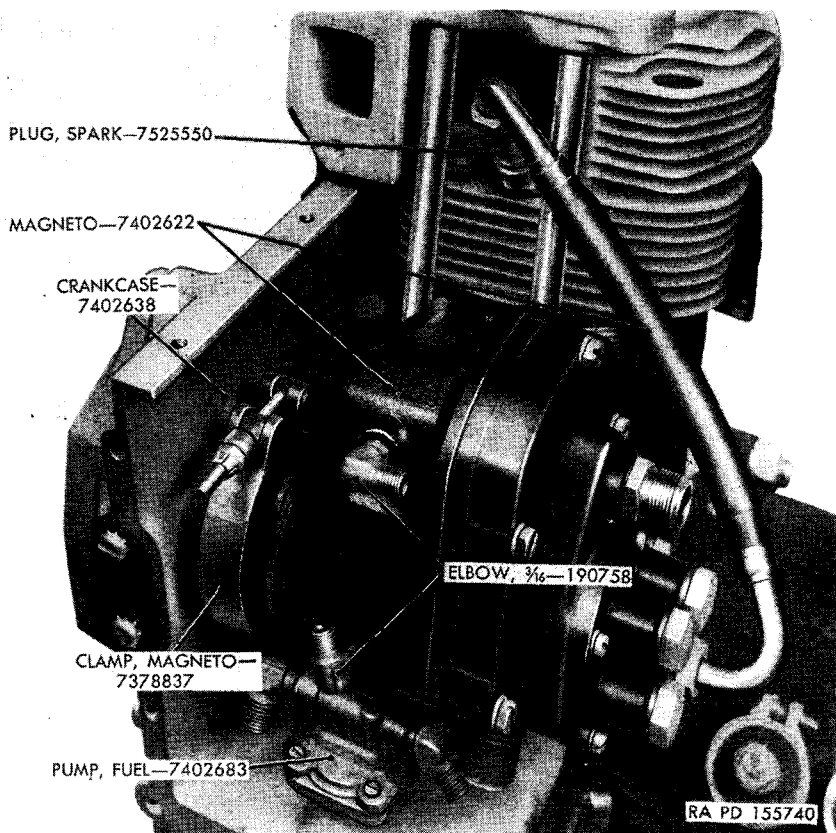

Figure 24. Magneto.
- a. Disconnect spark-plug cable at spark plug (fig. 24).
b. Loosen magneto clamp and remove magneto, gasket, and clamp from rear face of engine crankcase (fig. 24).